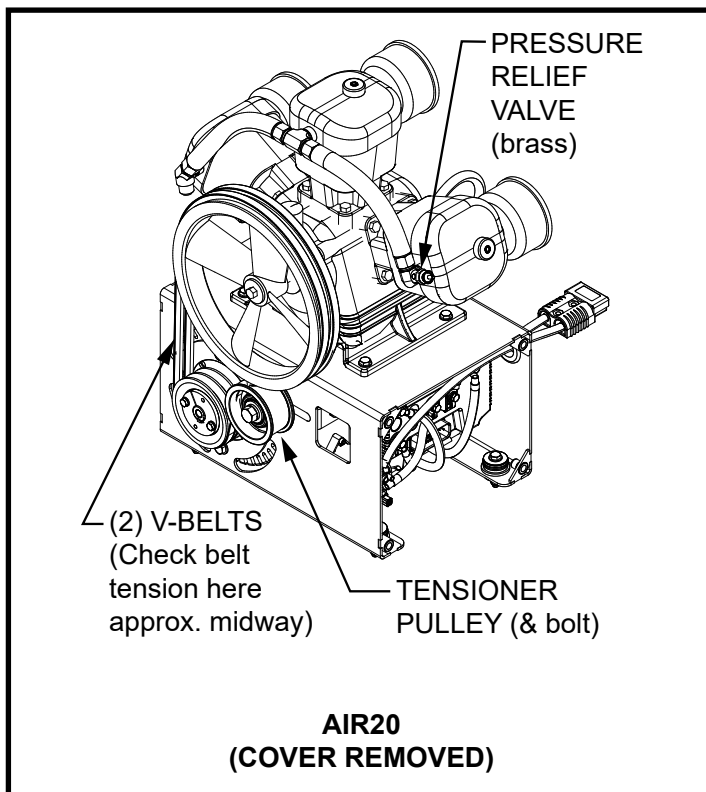

Figure 1-6
Check pressure relief valve. (*See Figure 1-6*) The National Board Inspection Code, created by the National Board of Boiler and Pressure Valve Inspectors, recommends testing safety and pressure relief valves (rated between 15psi to 400psi) once every 6 months.
1. The pressure relief valve can be easily identified as it is brass, and has a pull ring attached (*See Figure 1-6*)
5. If the belt feels loose, it may need to be tightened by adjusting the tensioner pulley. (*See Figure 1-6*)